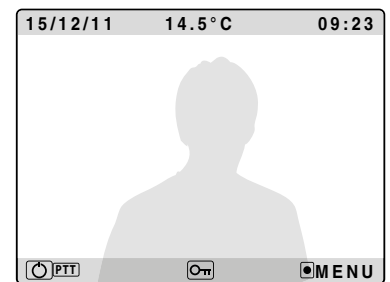

Fig. 1A
- To answer in hands free mode press the  button **Fig.1A** (or pick up the handset on Art. KRV76);